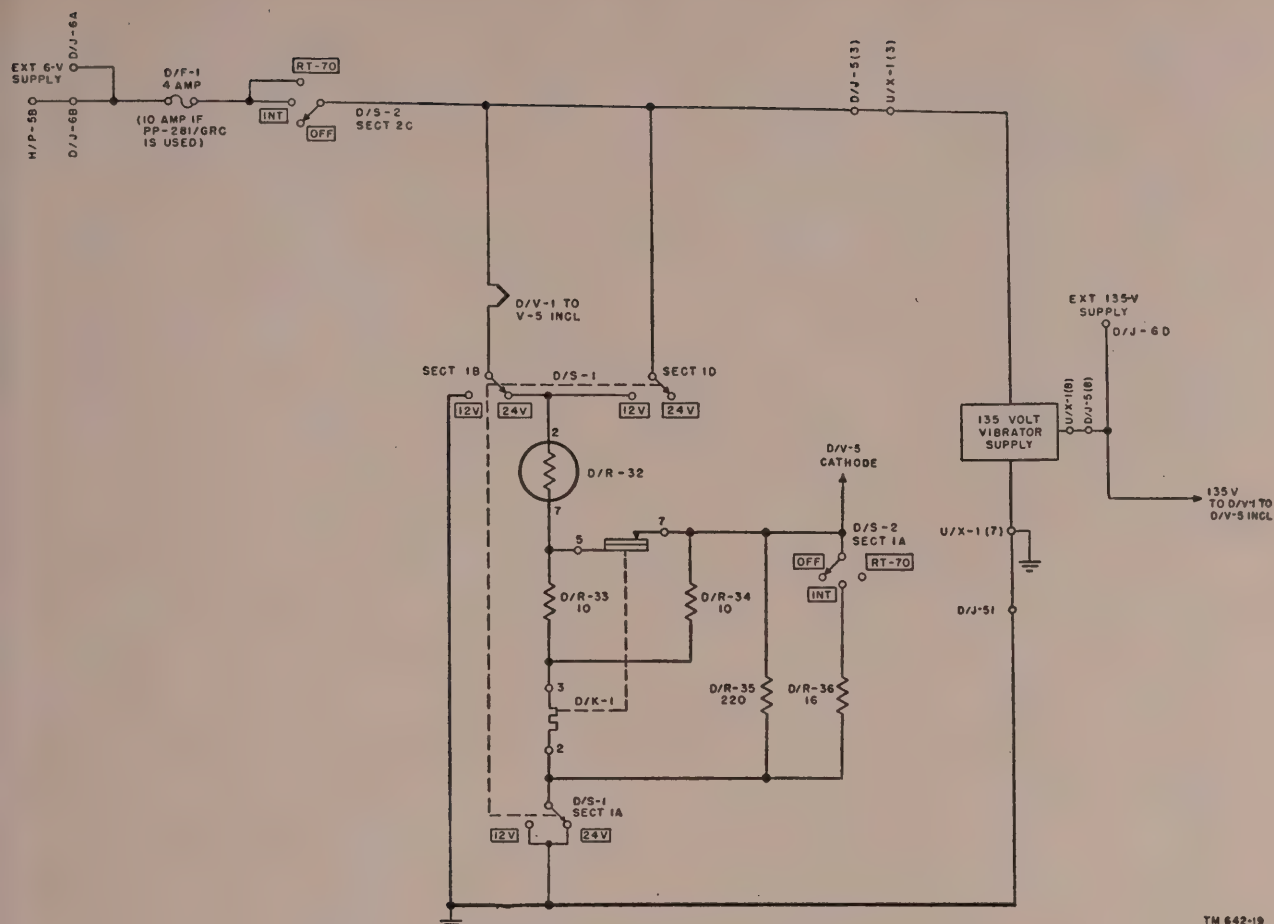

Figure 40. Interphone amplifier, power distribution circuits.
## 71. Interphone Amplifier Power Distribution Circuits (fig. 40)
- (1) When 6V-12V-24V switch D/S-1 (the 6V position is not used) is in the 24V position, sections 1B and 1A of the switch place the filament protection circuit for a second receiver-transmitter (when used) in series with the amplifier filaments (D/V-1 through V-5). For 12-volt operation, sections 1B, 1D, and 1A of D/S-1 place the filament and protection circuits in parallel directly across the battery. Section 1A of D/S-2, when in the INT position, places dummy load resistor D/R-36 in parallel with a section of the filament protection circuit in place of the load a second receiver-transmitter (when used) would place on the circuit.
- (2) The input voltage for the 135-volt vibrator in the amplifier is supplied through terminals D/J-5(3) and U/X-1(3). The vibrator output circuits are discussed in *c* below.
*c. Amplifier Plate and Screen Supply.* The plug-in vibrator power supply develops 135-volt output which is applied to the amplifier (and a second receiver-transmitter when used) plate and screen circuits (fig. 40). The amplifier tubes (V-1 through V-5) are supplied directly from the output of the vibrator. Provisions are made through terminal D/J-6D (POWER IN) to substitute an external 135-volt source for the vibrator output.